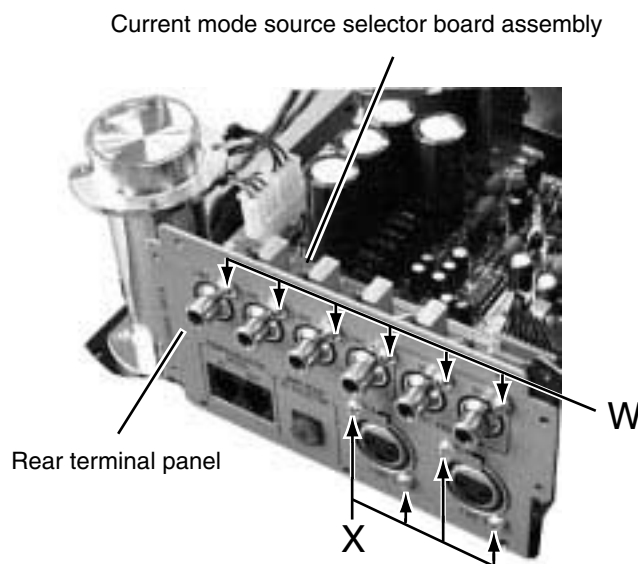

Fig.16
■ Removing the current mode source selector board assembly and rear terminal panel (See Fig. 16)